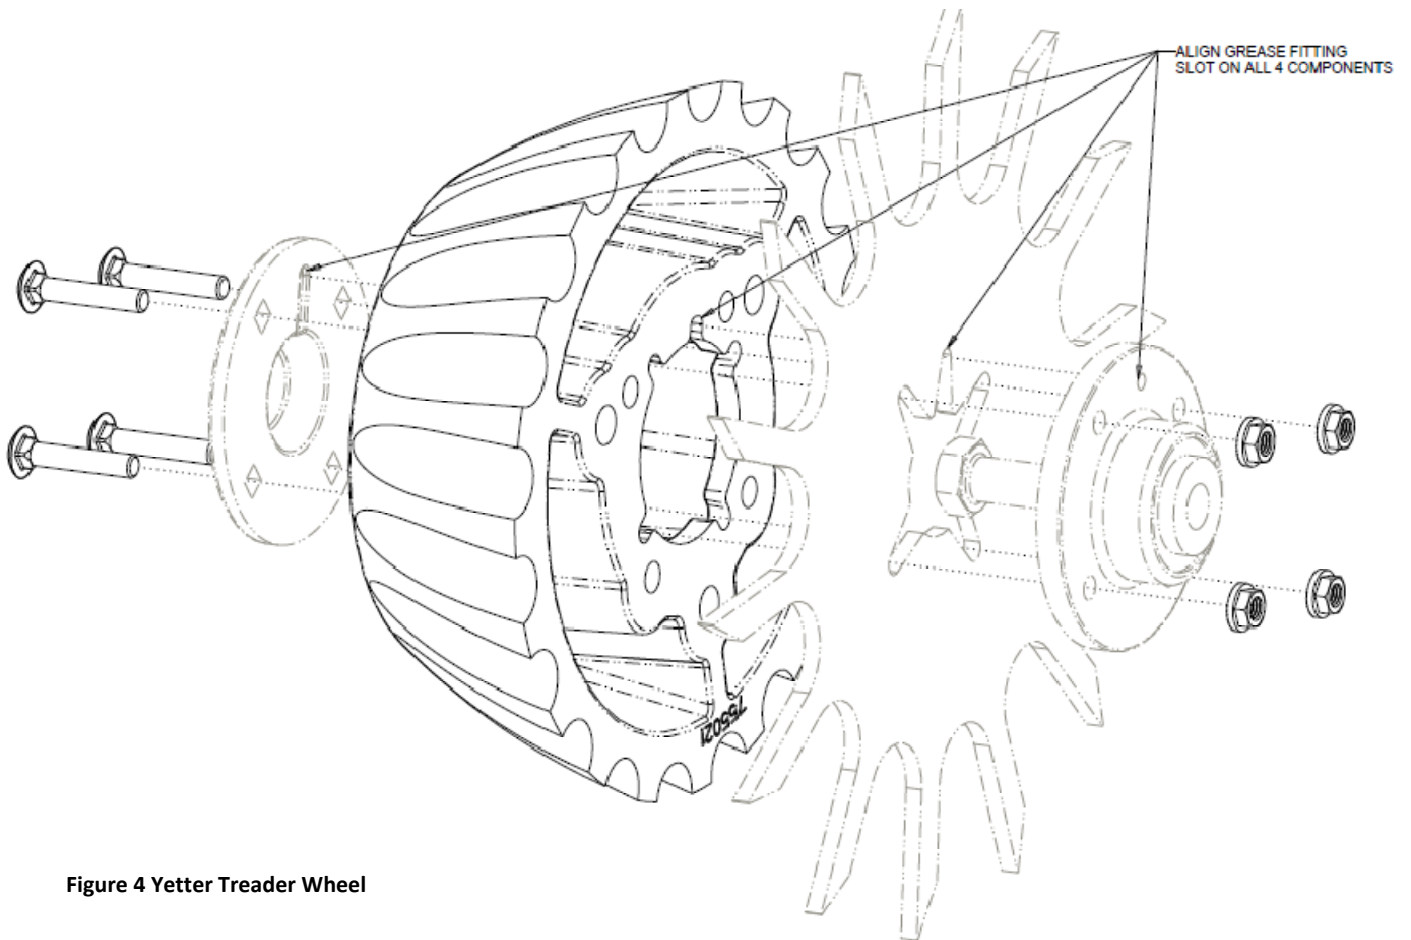

Figure 4 Yetter Treader Wheel
- For Yetter wheels, be sure to align grease slot on all components (see Figure 4)